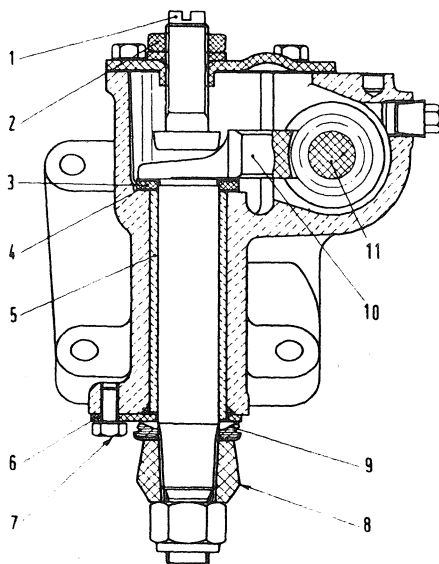

Fig. 332 - Section of steering box, through worm sector.
Check clearance between eccentric bush (5, fig. 332) and worm sector shaft (10, fig. 332) which must not exceed .0039" (0,10 mm). Fit of new parts is .00000" to .00165" (0,000 to 0,042 mm).
Back out screw (7, fig. 332) fixing adjustment plate (6).
As already mentioned, worm screw and sector must mesh in their central portion: if off center, this condition may be corrected by moving sector axially by adding or removing the shims (4, fig. 332) against eccentric bush shoulder.
The next adjustment must be carried out by means of adjustment screw (1, fig. 332) on cover, then locking screw by nut (2).